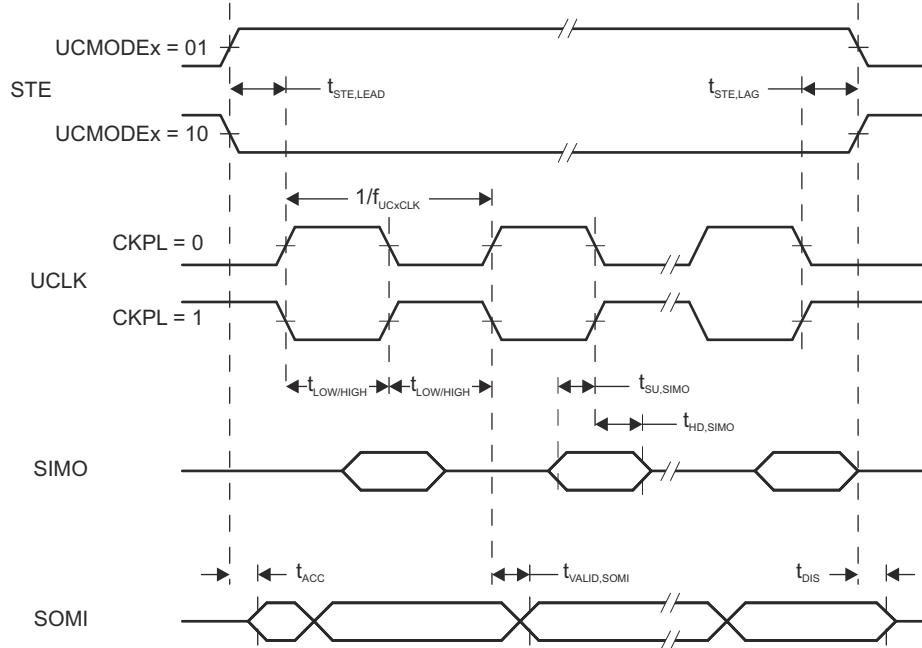
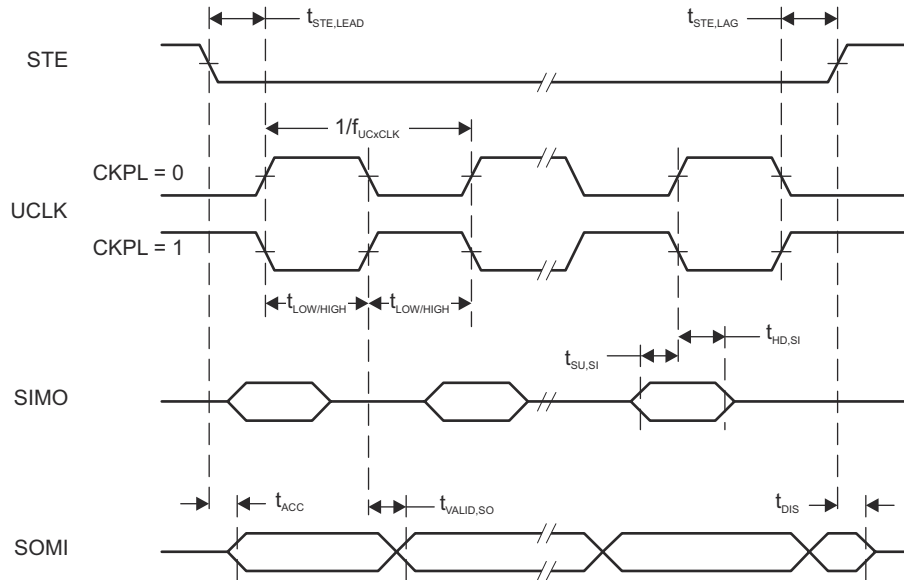

图 8-12. SPI Slave Mode, CKPH = 0
图 8-13. SPI Slave Mode, CKPH = 1
- (2) Specifies the time to drive the next valid data to the SOMI output after the output changing UCLK clock edge. See the timing diagrams in 图 8-12 and 图 8-13.
- (3) Specifies how long data on the SOMI output is valid after the output changing UCLK clock edge. See the timing diagrams in 图 8-12 and 图 8-13.